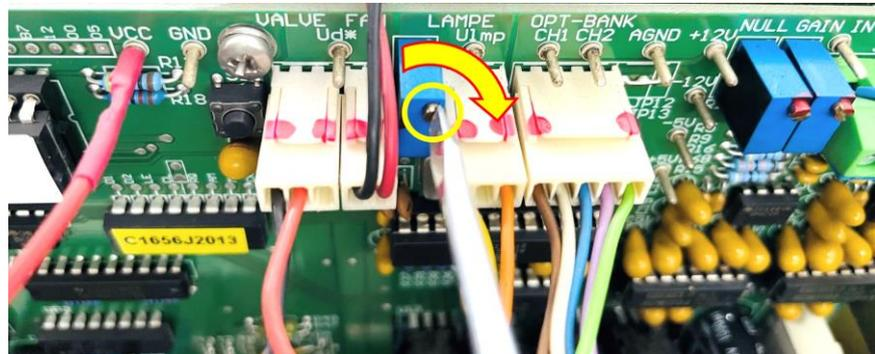

Figure 13. How to adjust the potentiometer
4. If the voltage is too low, raise the voltage by turning (clockwise) the potentiometer (R19) at the main circuit board by using (-) screwdriver as shown in Figure 13.